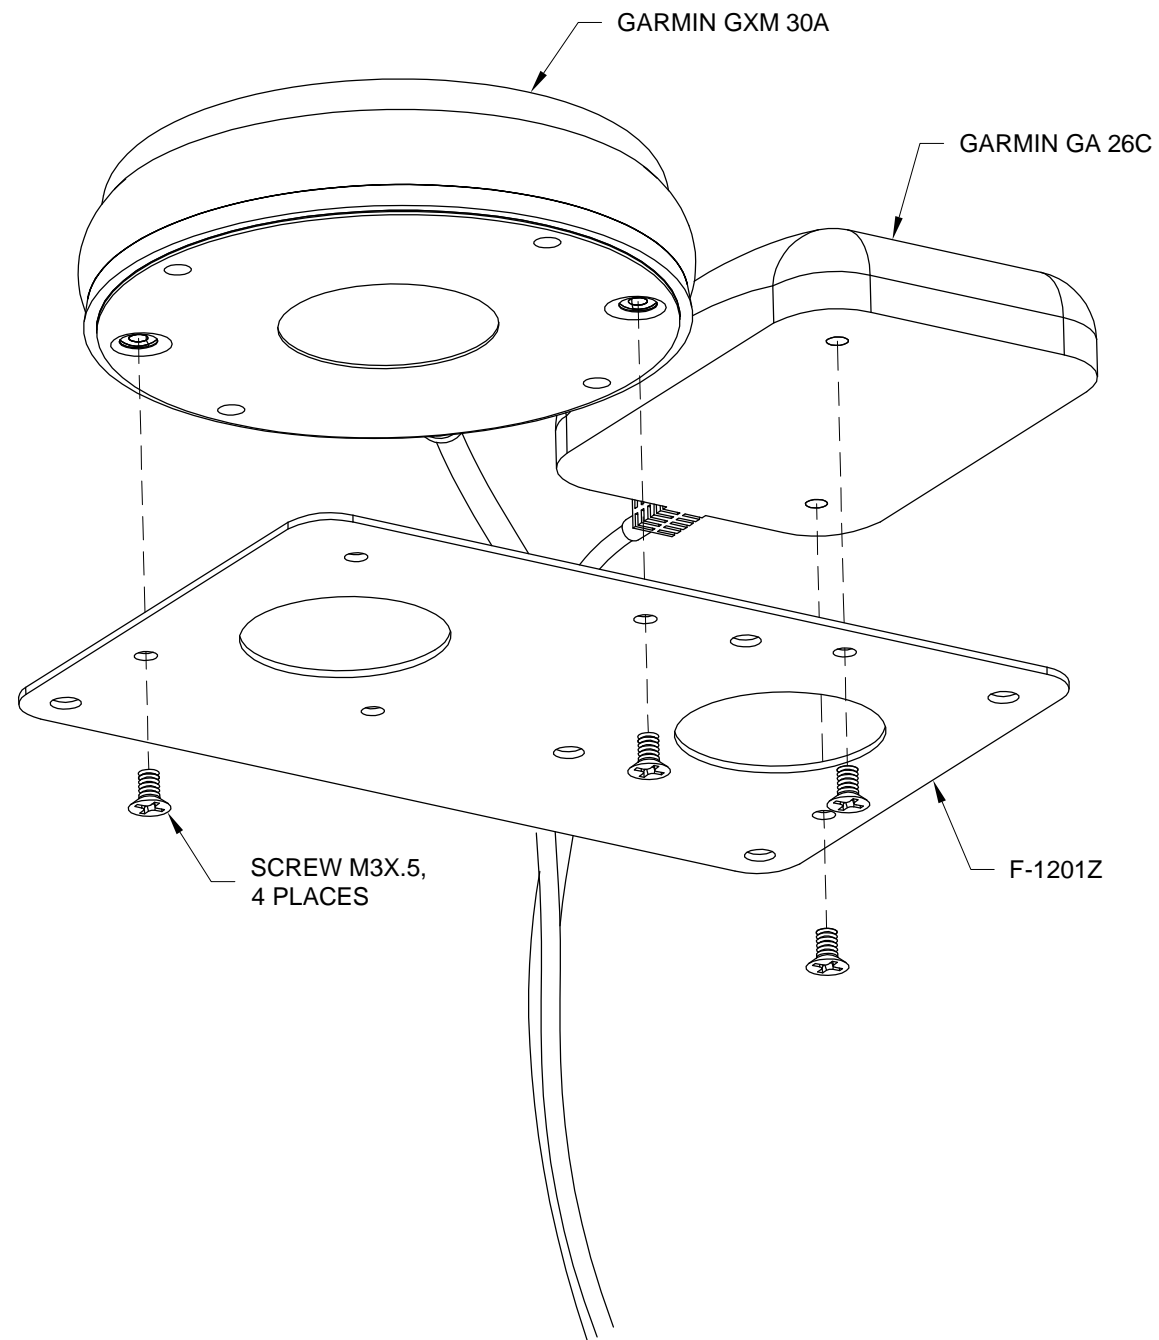

FIGURE 1: INSTALLING THE XM AND GPS ANTENNAS
Step 2: Install the GARMIN GXM 30A XM Antenna (if used) and the GARMIN GA 26C GPS Antenna onto the F-1201Z Retaining Plate using the hardware called out in Figure 1.